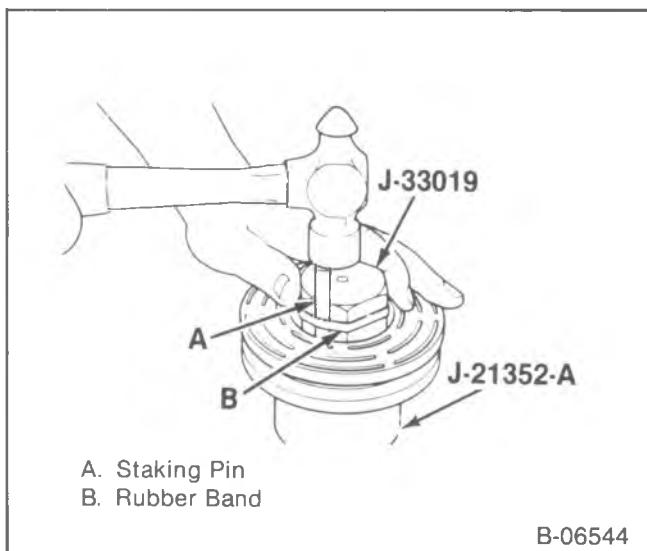

Figure 13—Staking the Pulley Bearing in the Rotor Bore
- J-33019 in the pulley bore (figure 13).